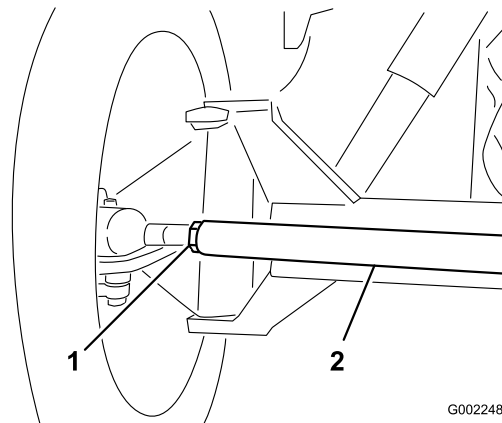

Figure 134
3. If the measurement does not fall within the specified range, loosen the jam nuts at both ends of the tie rod (Figure 134).